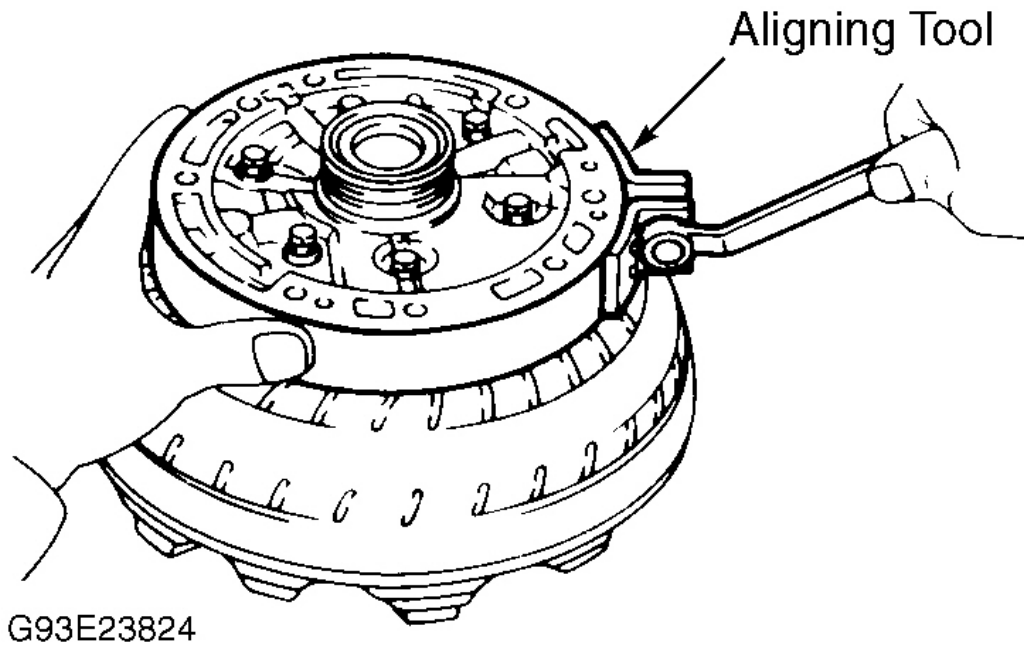

Fig. 17: Aligning Oil Pump Housing & Stator Shaft
1. Coat NEW oil seal with ATF and install flush with oil pump housing. Place oil pump housing on torque converter. Coat all components with ATF. Align reference marks on driven and drive gears during installation. Align bolt holes and place stator shaft onto pump housing. Install but do not tighten attaching bolts. Install oil pump aligning tool around outside of pump assembly to align pump housing and stator shaft. See **Fig. 17**.